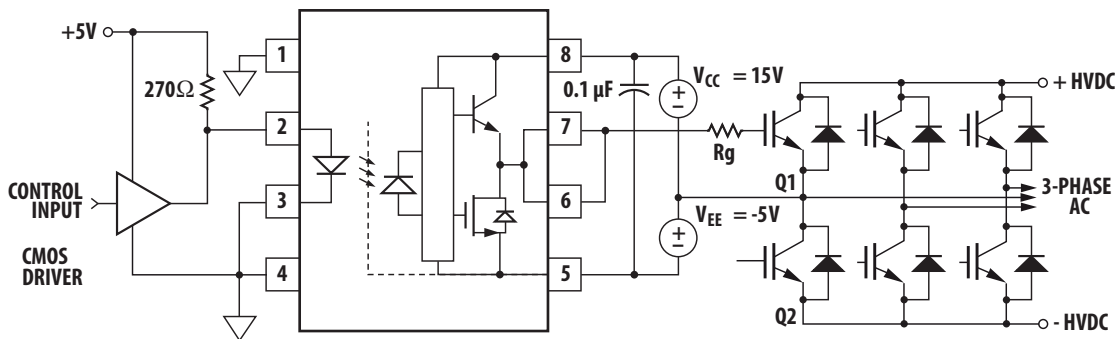

Figure 26. ACPL-312T typical application circuit with negative IGBT gate drive.
**Step 1:** Calculate  $R_g$  Minimum from the  $I_{OL}$  Peak Specification. The IGBT and  $R_g$  in Figure 26 can be analyzed as a simple RC circuit with a voltage supplied by the HCPL-3120.
For the circuit in Figure 26 with IF (worst case) = 16 mA, Rg = 8 Ω, Max Duty Cycle = 80%, Qg = 500 nC, f = 20 kHz and TA max = 85°C: